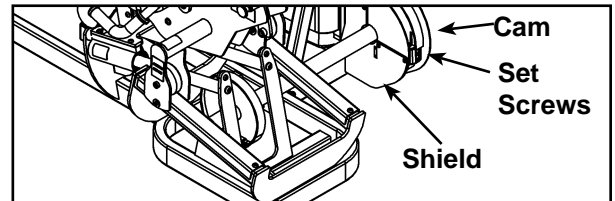

Figure 1B
E. Rotate cam and disconnect weight stack belt from cam (by loosening the two set screws on the belt clamp with a 7/32" Allen wrench). See Figure 1B.
P. Connect the weight stack belt to the belt clamp of cam (removed in step 4E). See Figure 1B.